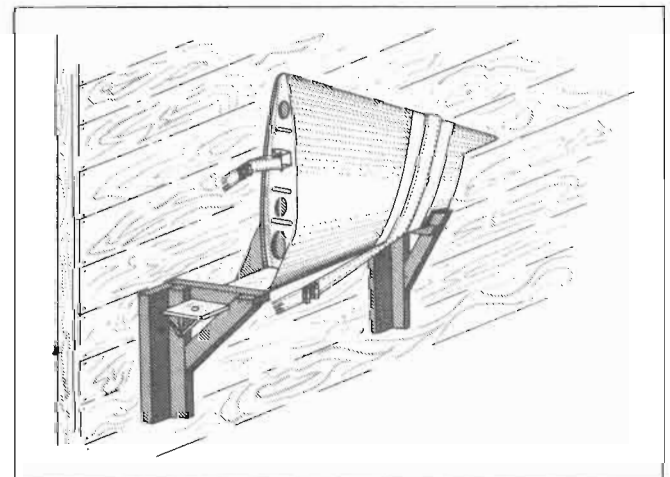

Figure 16 — Vertical Stabilizer Attached to Wall
- (m) Attach vertical stabilizer to bracket on the front section of the right wall, using webbing for support. (See figure 16.)